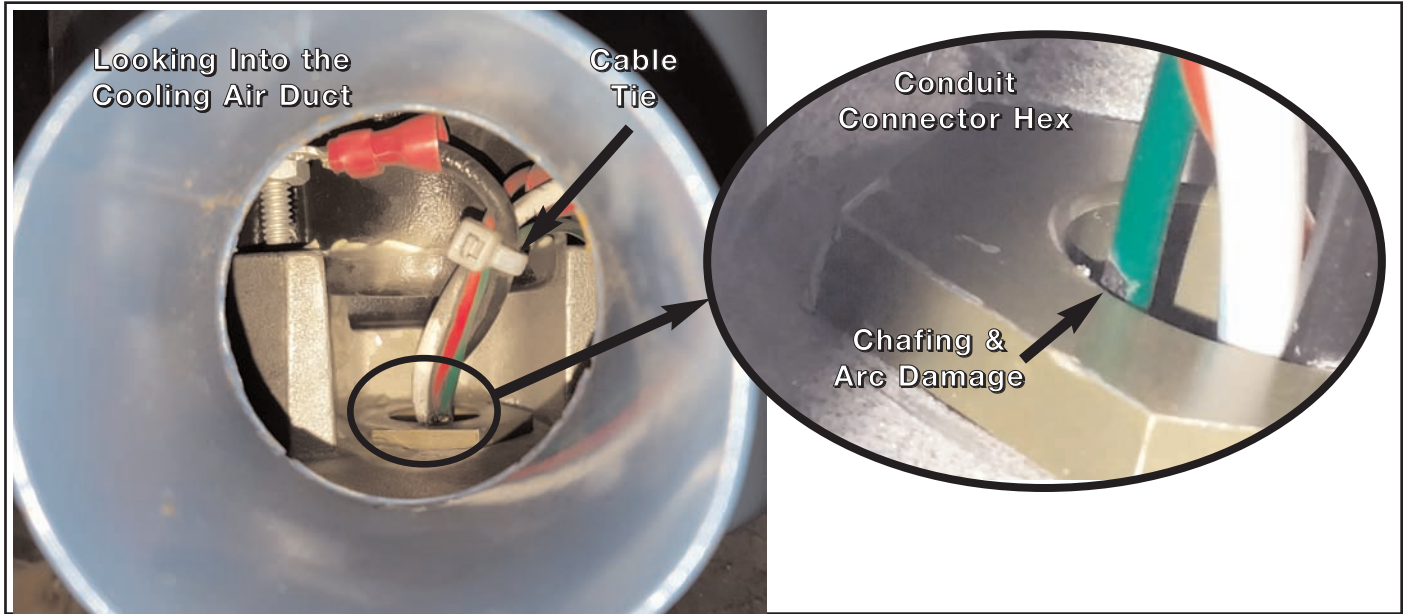
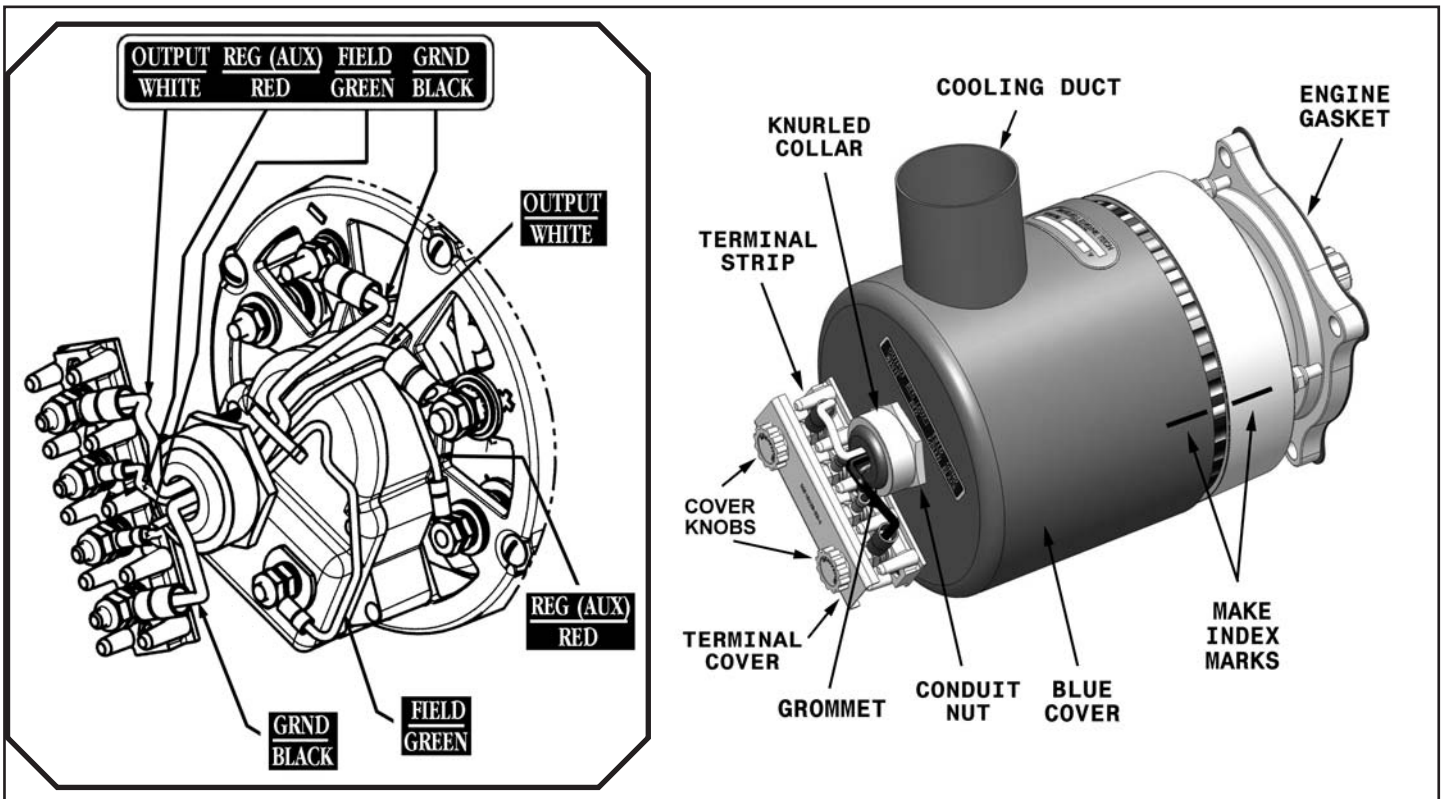
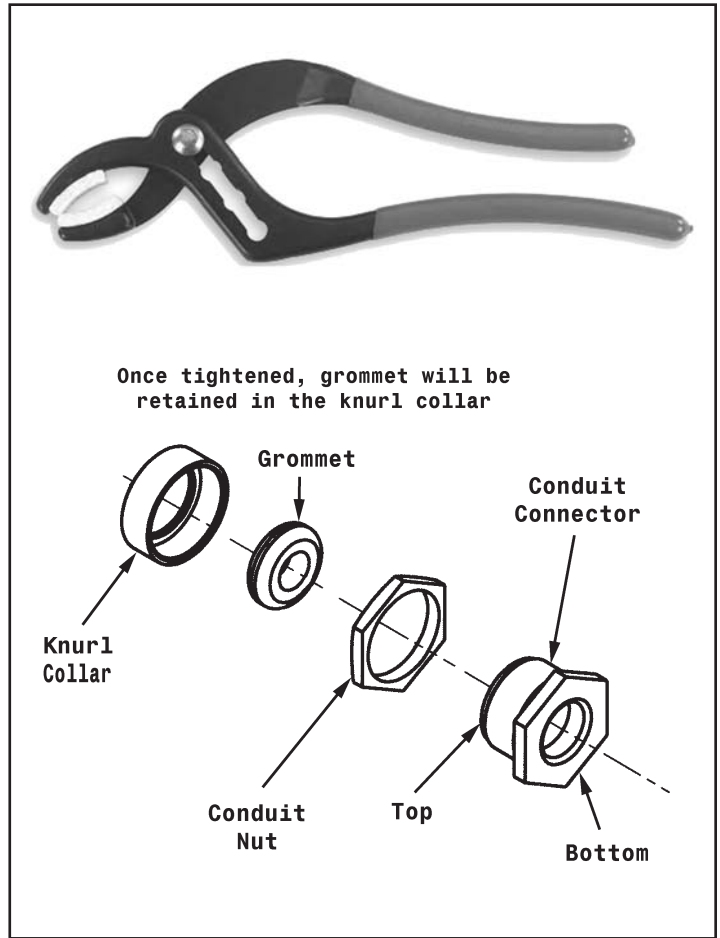
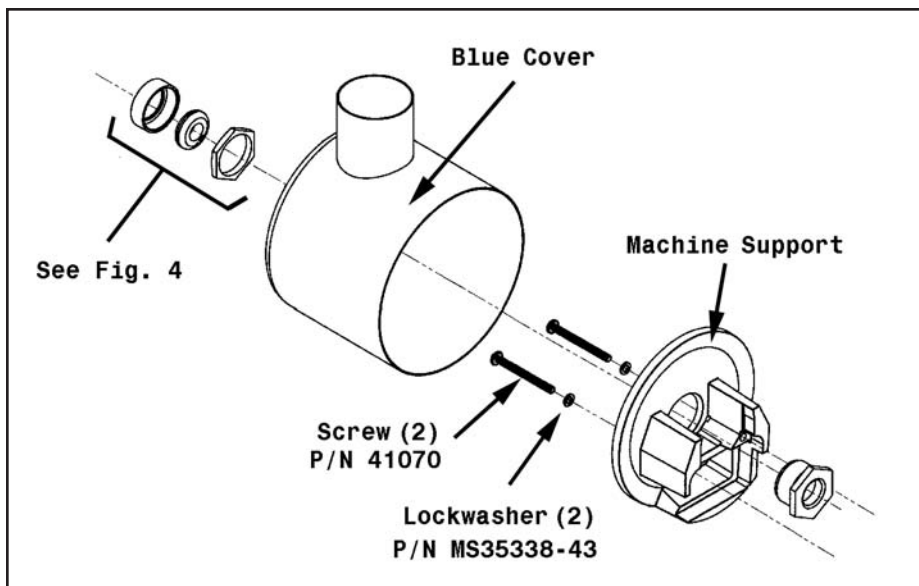

Figure 1 - Wire Harness Chafing Condition
Figure 2 - Component Identification
Figure 4 - Soft Jaw Connector Plier & Connector Stack Up
Figure 5 - Machine Support Removal
- (9) Move the knurl collar with retained grommet away from the conduit connector down the wire harness to allow room to install the chafing protection. Refer to Fig. 2 and Fig. 3.
- (10) Wrap the spiral insulation over the four wires using a screw action, inserting it until the spiral insulation seats against the cable tie and passes the area of the conduit connector where chafing may occur.
- (a) Tighten the spiral insulation wrap to limit any gaps. Refer to Fig. 1 and Fig. 3.
- (11) Push the knurl collar with retained grommet along the wire harness to the conduit connector.
- (12) Thread the knurl collar onto the conduit connector.
- (a) Tighten the knurl collar finger tight then 1/4 turn more. Refer to Fig. 4.
- (13) Install each wire on the terminal strip stud that corresponds to the color of the wire and the color listed on the placard above the terminal strip. Refer to Fig. 2.
- (14) Install each AIRCRAFT wire on the terminal strip stud that corresponds to the function of the wire as marked and as listed on the placard above the terminal strip. Refer to Fig. 2.
- (15) Put the terminal strip protective cover on the terminal strip and tighten the knobs.
- (1) The electrical harness wire replacement may be performed with the alternator mounted to the engine if sufficient space is available. If not, remove the alternator for this procedure.
- (2) Disconnect aircraft battery and other sources of electrical power.
- (3) Loosen the terminal strip protective cover knobs and remove the cover. Refer to Fig. 2.
- (4) Remove and discard the four nylon insert lock nuts from the terminal strip wire studs.
- (5) Remove the four AIRCRAFT wires from the stud.
- (6) Remove and retain the four 10-24 jam nuts and washers from the terminal strip wire studs.
- (7) Remove the four color coded wires from the terminal studs and pull them straight.
- (8) Put an index mark on the blue cover extending onto the drive end housing. Refer to Fig. 2.
- (9) Using a soft jaw connector plier, loosen the knurl collar completely. Refer to Fig. 4.
- (10) Pull and remove the knurl collar with retained grommet from the conduit connector. This allows removal of the blue alternator cover to expose the other end of the wire harness. Refer to Fig. 2.
- (11) Place a narrow, flat ended bucking bar or chisel into the cooling duct of the blue alternator cover to hold the conduit connector hex nut end.
- (12) Using a spanner wrench, loosen and remove the conduit connector nut. Refer to Fig. 4.
- (13) Remove the blue alternator cover to expose the wire harness connections. Refer to Fig. 2.
- (a) Cut the small cable tie that secures the wire harness. Refer to Fig. 2.
- (14) With the rectifier plate exposed, locate the white power wire and remove the 1/4 inch jam nut and lock washer.
- (15) Remove the white power (+) wire and replace it with the new white wire (P/N 41072-5) from HET Kit P/N 79903 if alternator is model 7555H-72D or 7655T only or white wire (P/N 41072-1) from HET Kit P/N 79902 for alternator models 6550T, 6555T, 6565T, 7555T, and 7565T.
- (16) Remove the black ground (-) wire and replace it with the new P/N HET P/N 41072-2 wire.
- (17) Remove the red field wire and replace it with the new P/N HET P/N 41072-3 wire.
- (18) Remove the green AUX wire and replace it with the new P/N HET P/N 41072-4 wire.
- (b) If torque of the green AUX wire nut cannot be achieved, it is permissible to remove the machine support by removing the two HET P/N 41070 screws and lockwashers. Refer to Fig. 5.
- (19) Install a cable tie to secure the wire harness at the base of the conduit connector shown in Fig. 1.